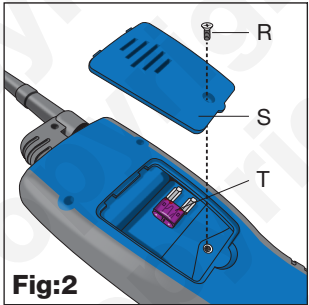

Fig:2
Refer to Fig 2: the tester is fitted with two fuses. The internal auto-recover fuse/circuit-breaker (not replaceable) is rated at 5A; the replaceable fuse (T) is rated at 20A and is accessed by removing screw (R) and fuse compartment lid (S).